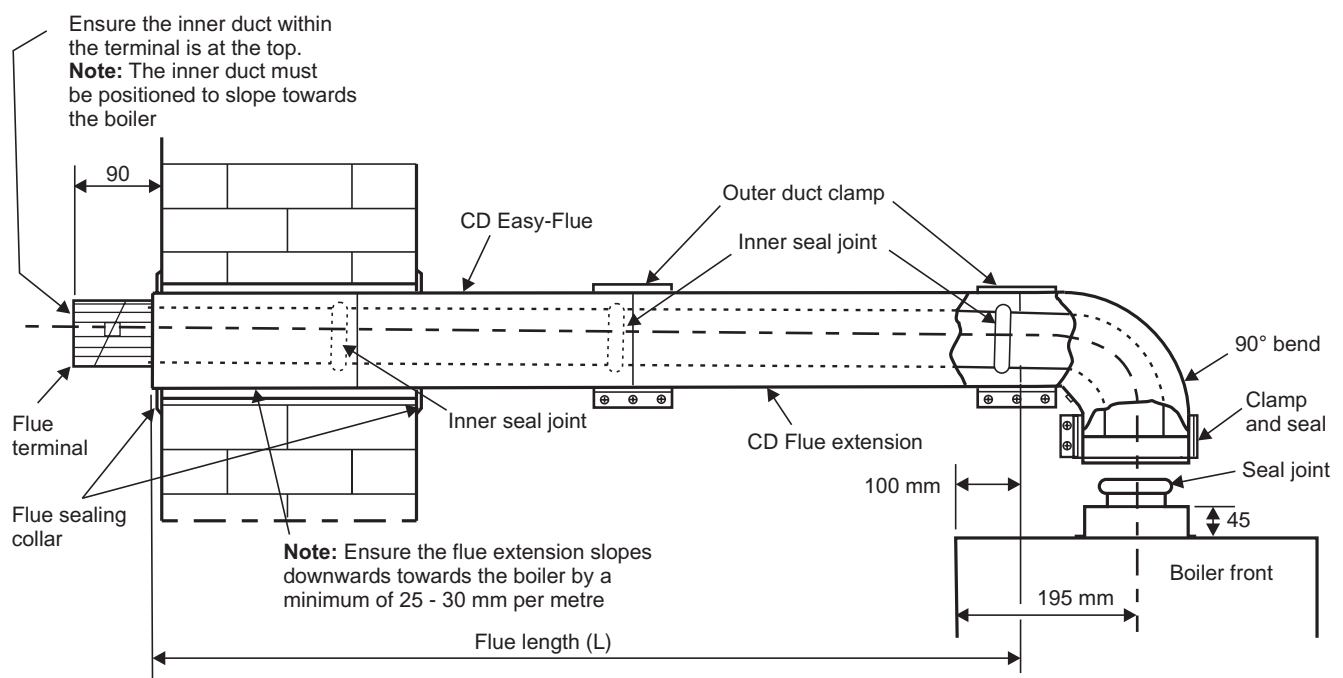

Fig. 19 - Side flue
4.7 EXTENDING THE FLUE - Fig. 19
Note: Check the flue terminal protrudes 100 mm out of the wall and that the inner duct of the terminal is positioned correctly, i.e. the inner duct within the terminal is at the top. See Fig. 19.